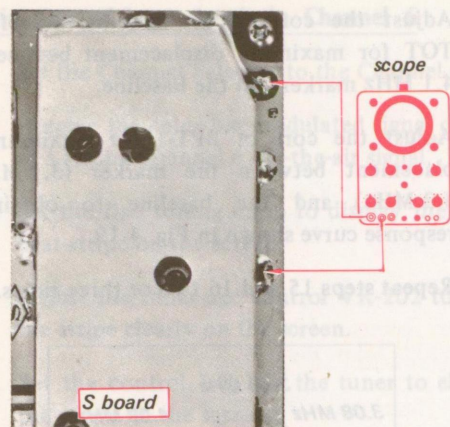

Fig. 4-20. Scope connections for SIF alignment
4. Connect the scope across a capacitor C263 as shown in Fig. 4-20.